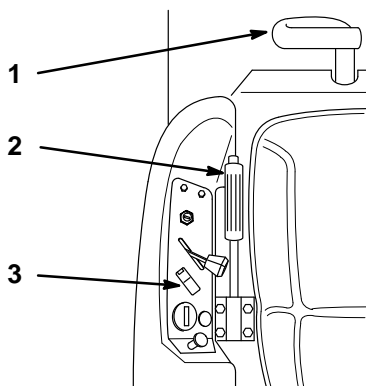

Figure 13
1. With engine running, release pressure on the traction control levers and place in neutral (Fig. 13).
2. Release the parking brake (Fig. 13).